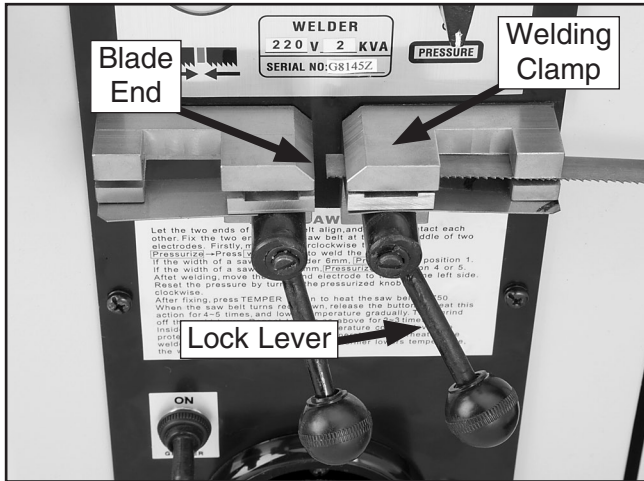

Figure 29. Blade end properly position in welding clamp and locked in place.
- Position the back of one blade end evenly against the back of the welding clamp so that the end is midway between the two clamps, then rotate that lock lever all the way up to hold the blade end in place (see **Figure 29**).